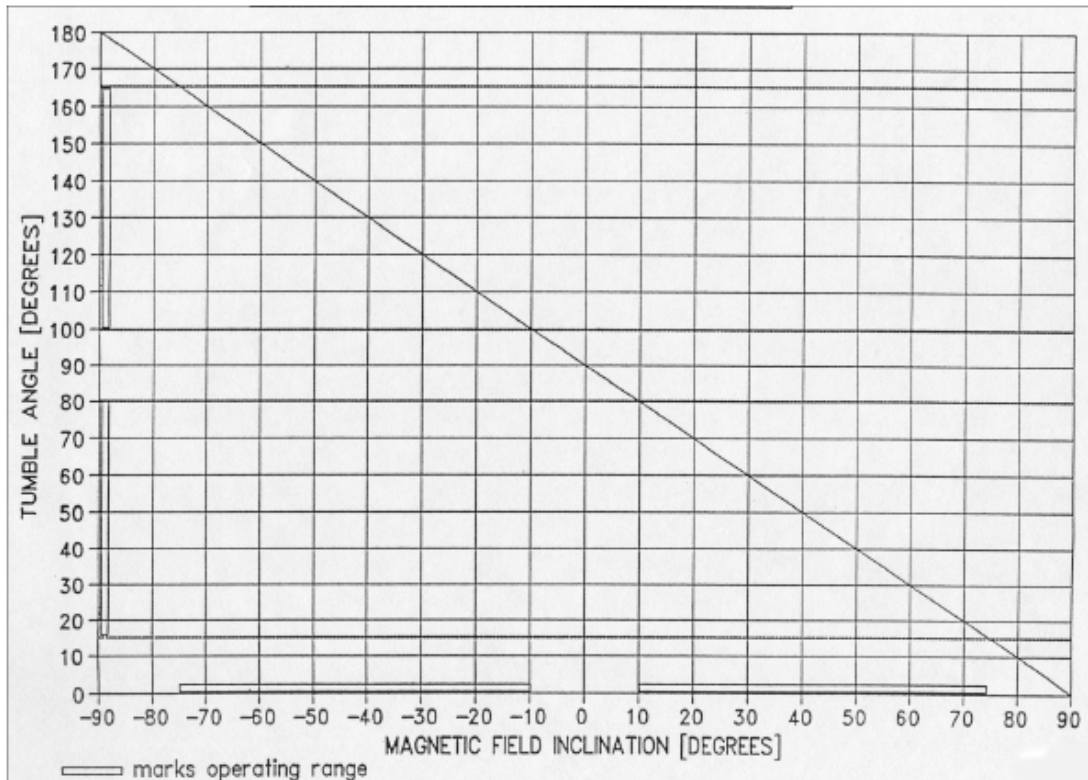

Figure 7 - Plot of tumble angle versus magnetic field inclination. Sensor inclination is 90°. Any sensor azimuth can be used.
The operating range of the magnetic field inclinations, for which the tumble angle is inside the active operating zone, is indicated by horizontal arrows in the graph. The sensor orientation shown in the Figure 7 is very useful because it covers most of the Earth's surface with the exception of polar and equatorial regions.
2. The orientation in Figure 7 with sensor inclination 90 degrees, for the regions between polar and equatorial regions. These orientations provide enough overlap at both ends: regions with field inclinations N/S from 53° to 75° and inclinations N/S from 10° to 22° could be surveyed by either sensor orientation setting 1) or 2).
1. the orientation in Figure 7, with sensor inclination 90 degrees, for the ambient field inclinations from 25° to 90°.